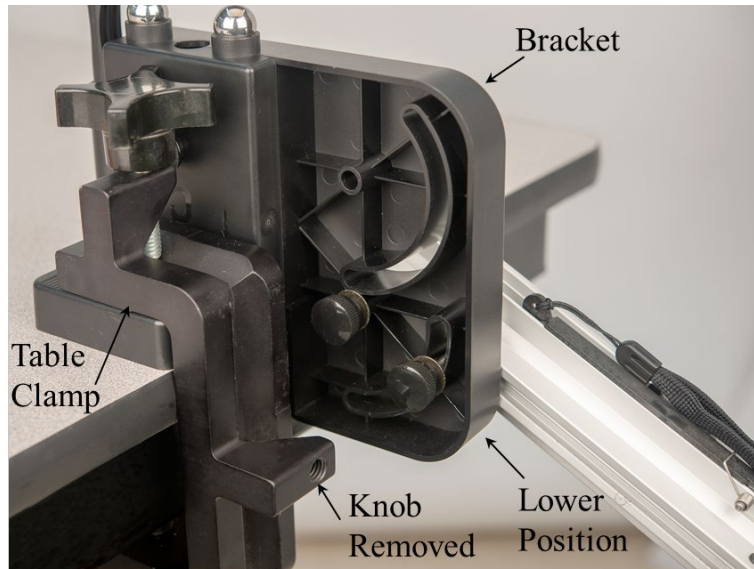

Figure 2: Launcher Mount
2. Make sure the Mini Launcher is mounted on the bracket in the lower position as shown in Figure 2. Slide the launcher all the way back so that it pivots about the launch position of the ball.
3. Fasten the launcher to the table using the Table Clamp. It is easier to adjust the launcher angle if you remove the knob as shown in Figure 2.
1. Confirm that the launcher is mounted in the lower position on the bracket, and that the launcher is pulled all the way back (see Figures 2 & 6), so that the ball is launched from tabletop height.